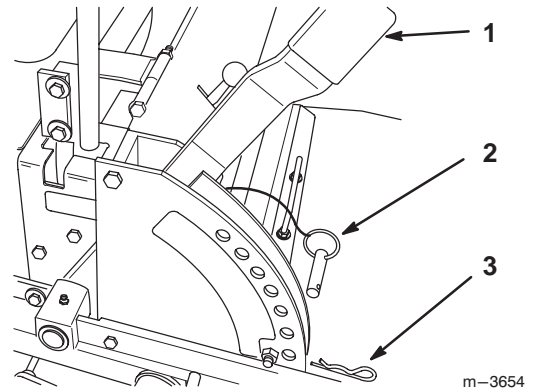

Figure 10
1. Raise the height-of-cut lever to the transport position (also the 4-1/2 in. (114 mm) cutting height position) (Fig. 10).
2. To adjust, remove the hairpin cotter and clevis pin from the height-of-cut bracket (Fig. 10).
3. Select the hole in the height-of-cut bracket corresponding to the height-of-cut desired, and insert the clevis pin (Fig. 10).
4. Secure the clevis pin with the hairpin cotter (Fig. 10).